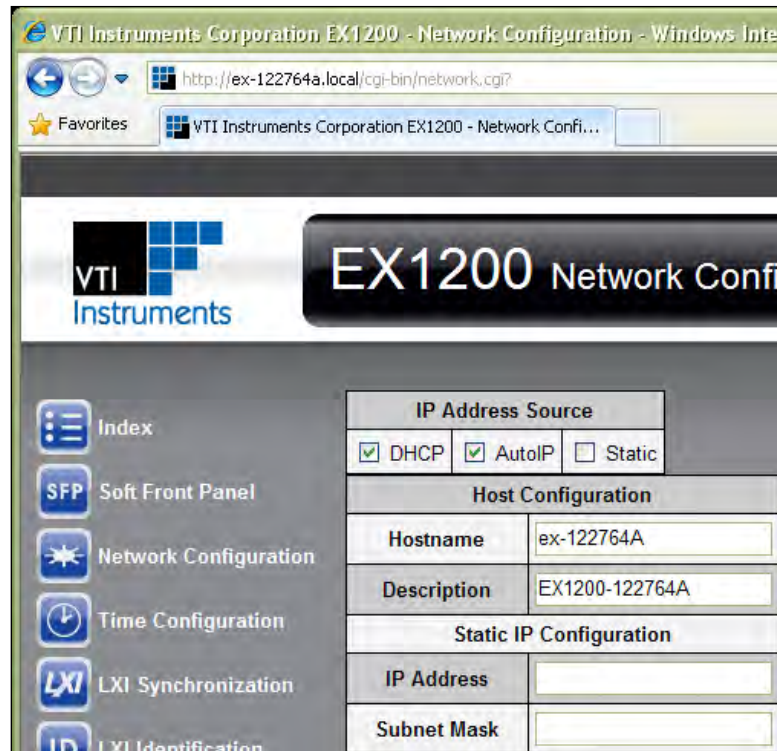

FIGURE 2-17: EX1200 SET TO USE AUTO IP
- 5) Select **DHCP** and **AutoIP** in the **IP Address Source** field and ensure that **Static IP** is not selected. Figure 2-17 shows the proper configuration. Click the **Submit** button to save all changes.